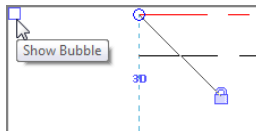

FIGURE 3.17: You can click the box that appears to turn on the level information at the other end of the building.
To follow along, pan over to the left side of the building, where the level lines seem to stop, as shown in Figure 3.17.
2. Pick the small blue box to the left of the level. Doing so turns on the level information at that end of the building (see Figure 3.17).